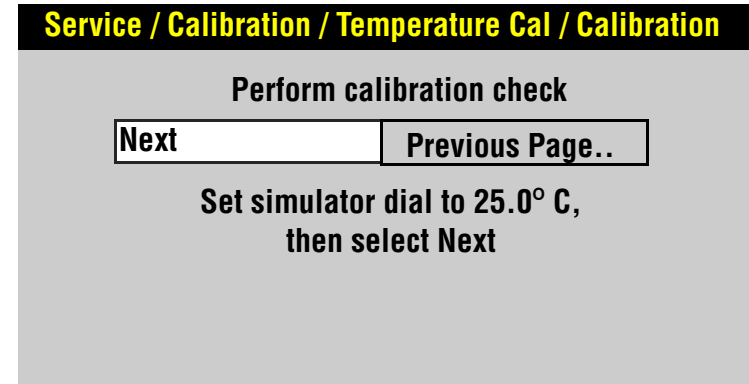

Figure 6.6—Calibration checking
6. Connect the temperature sensor to the device and select the Start button. The screen shown in Figure 6.6 appears.